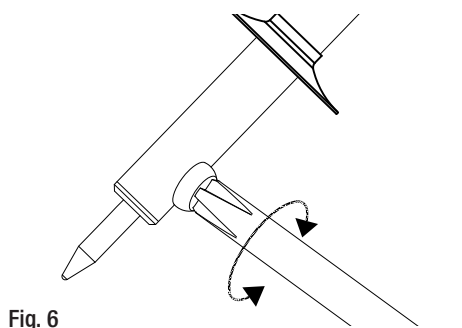

Fig. 6
1. Unscrew the nut and remove the nut and barrel. (Fig. 6)
3. Reinstall the nut and barrel. Tighten the nut securely. (Fig. 6)
3. Make sure Soldering Iron tip is fixed in position and secure (Fig. 6 & 7).